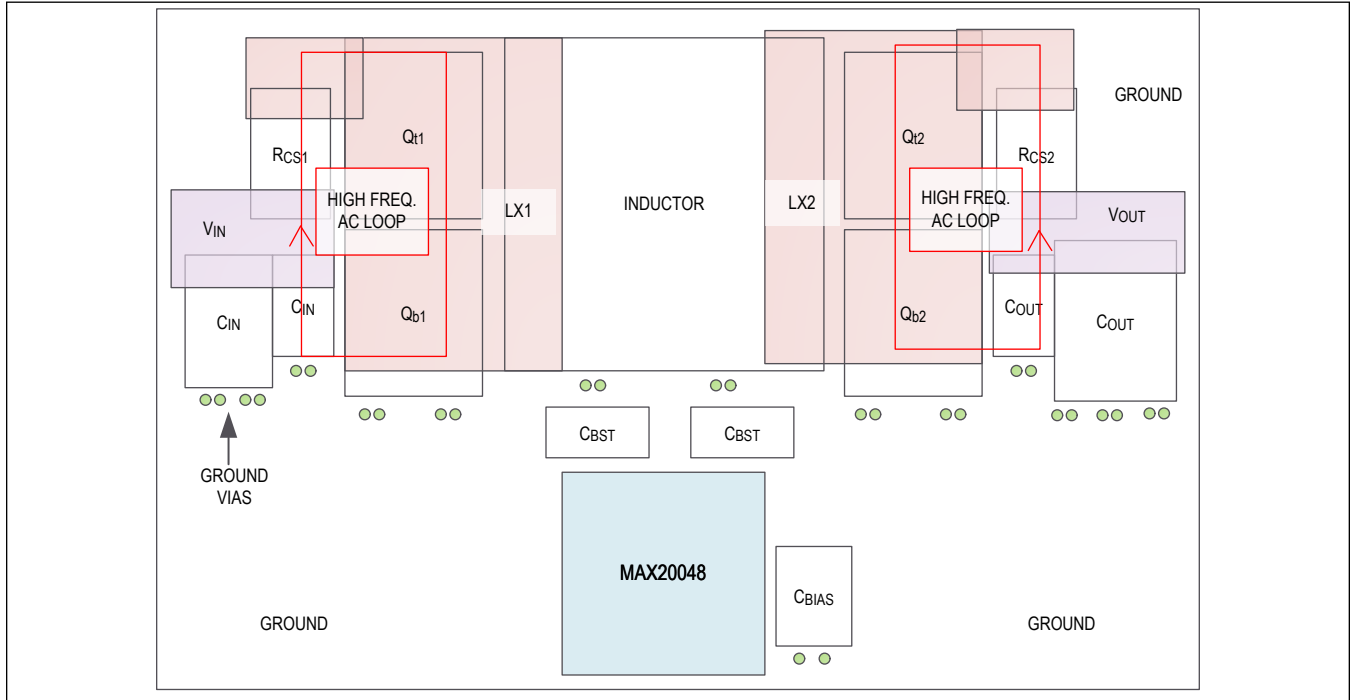

Figure 3. Recommended PCB Layout for the MAX20048.
2. Place the input capacitor and the input current-sense resistor close to the input MOSFETs (Qt1 and Qb1) to make a small input current AC loop. High-frequency AC currents flow in this loop in buck mode (Figure 3) and a small loop helps with the EMI and noise performance. Add high-frequency decoupling caps to improve the high-frequency performance.
3. Place the output capacitor and the output current-sense resistor close to the output MOSFETs (Qt2 and Qb2) to make a small output-current AC loop. High-frequency AC currents flow in this loop in boost mode (Figure 3) and a small loop helps with the EMI and noise performance. Add high-frequency decoupling caps to improve the high-frequency performance.